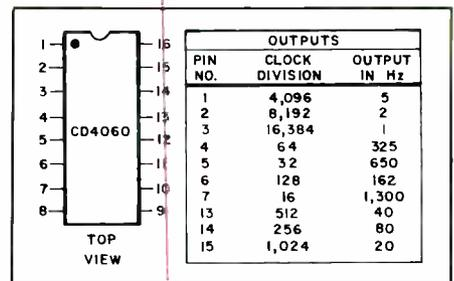

Fig. 5. A CD4060 divider chip can be used to slow down project's clock oscillator for easy observance of signal activity via a logic probe or discrete LEDs.
CD4060 circuit, refer to the table in Fig. 5 for details of where to pick off the divided signal for monitoring with a logic probe.
Leave the CD4060 still connected to the project as described above. Then temporarily connect one of the slow outputs (see Table in Fig. 5) to input pins 1 and 15 of IC4.
With reference to Fig. 5, when R is comparatively large and the circuit bandwidth is large, a square wave will be reproduced with overshoot and ringing evident for only brief intervals following the leading and trailing edges of the square wave. The Q value of a parallel-resonant circuit (or equivalent parallel-resonant circuit) is equal to XL/R . Since $XL = XC$ at resonance, the Q value of the circuit is also equal to XC/R .
Fig. 5. Example of ringing reproduced square wave with rapid decay interval: (A) as it would appear on the screen of an oscilloscope; (B) rapidly of decay depends on the Q value of the equivalent RLC network.